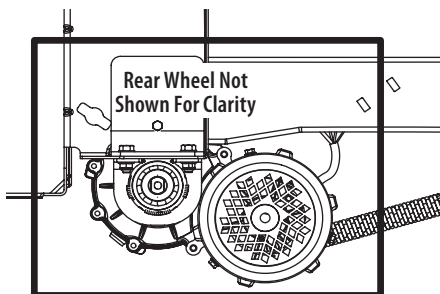

Figure 30
- Clean around and near the transmission and axle (Figure 30).